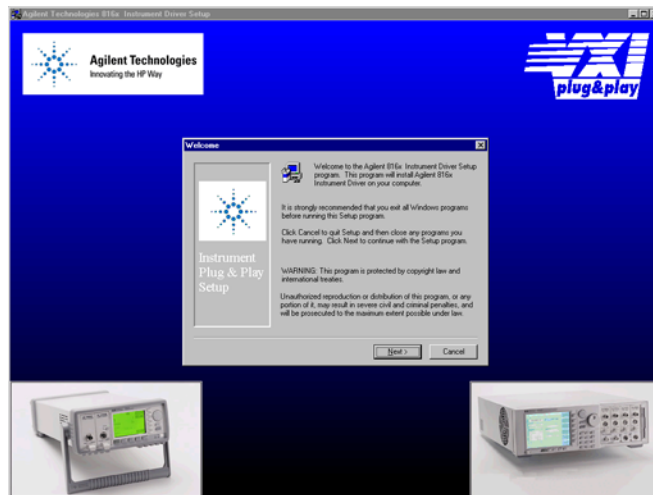

Figure 2 Welcome Screen
- 5 You see a message, as shown in Figure 2, advising you to close the programs that you have running.